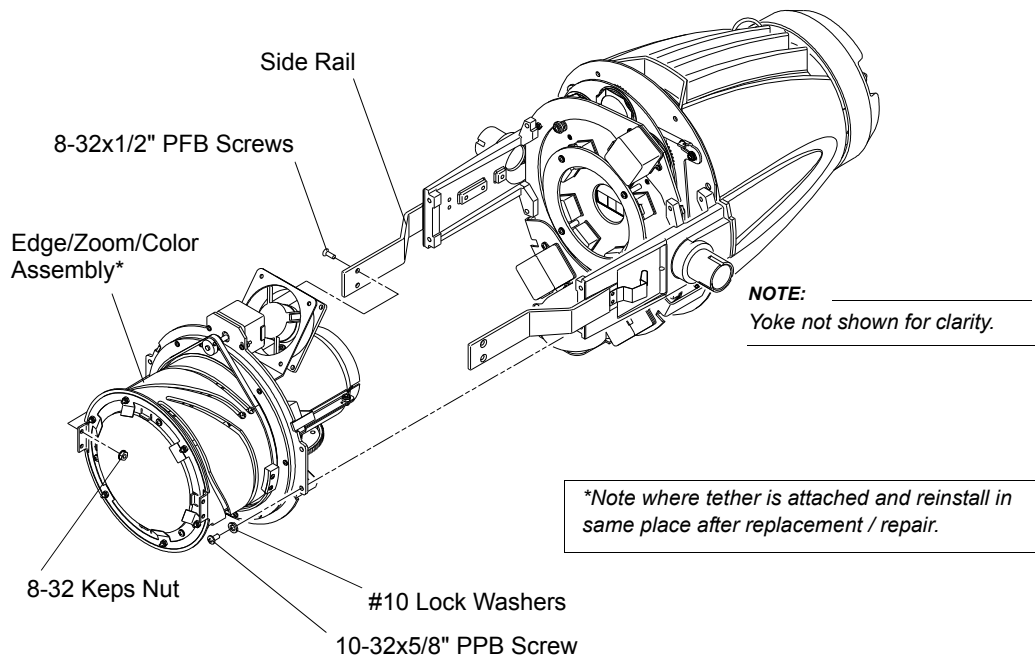

Figure 2-18: Edge/Zoom/Color Bulkhead Replacement
- Step 4. At side rail, remove four 8-32x1/2" PFB screws, four 10-32X5/8" PPB screws and four #10 lock washers as indicated in Figure 2-18.